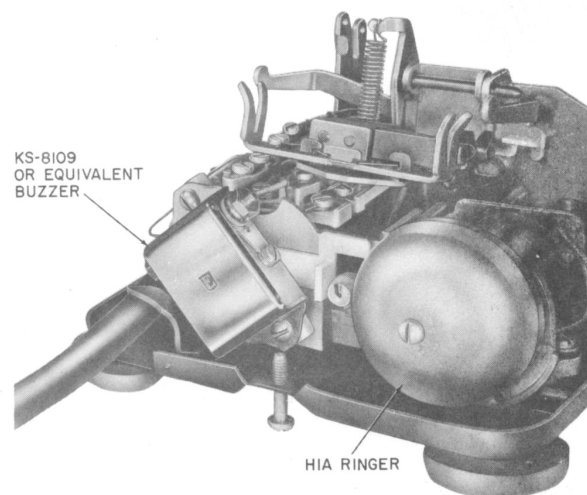

Fig. 13—Location of KS-8109 Buzzer
- 3.05 A KS-8109L2 or equivalent buzzer may be mounted to the ringer bracket provided with sets equipped with an H1A ringer (Fig. 13).